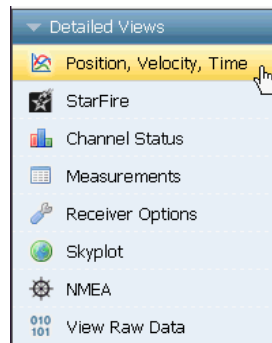
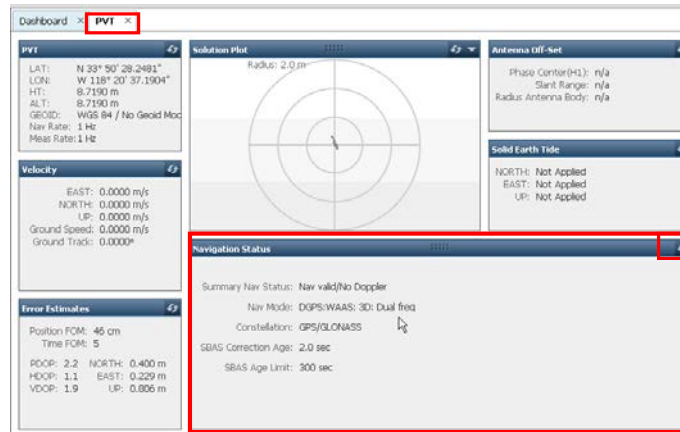
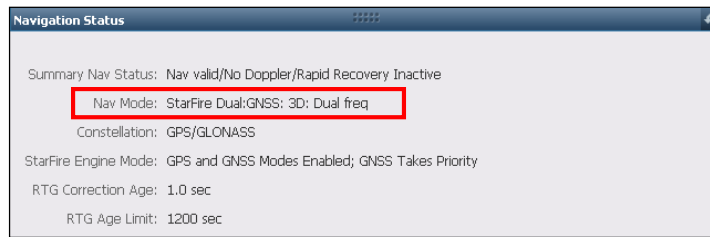

Figure 30: Position, Velocity, Time Menu Item
Figure 31: PVT Tab/Navigation Status Window
Figure 37: Nav Mode: StarFire Dual GNSS
68. To confirm a valid position solution on the *PVT* tab/*Navigation Status* window, first click *Position, Velocity, Time* (see Figure 30) on the *Detailed Views* menu to open the *PVT* tab (see Figure 31).
- Click  (refresh) on the *Navigation Status* window to ensure that the current position solution is displayed (see Figure 31).
79. Click *Position, Velocity & Time* on the *Detailed Views* menu (see Figure 30) to determine if the receiver is navigating in *StarFire* mode. The *PVT* tab opens (see Figure 37).
- ☐ The Nav Mode: *StarFire Dual:GNSS: 3D: Dual freq* in Figure 37 indicates that the receiver is navigating in StarFire dual frequency with a 3D position fix, which is very accurate.